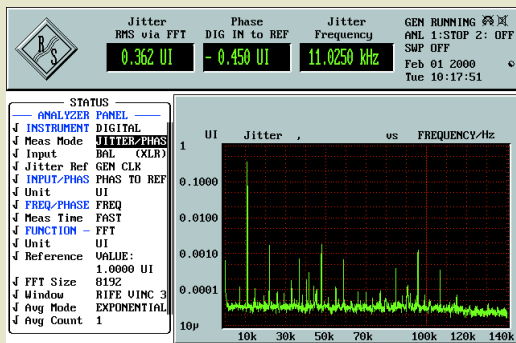

Fig. 9: Individual interference components can easily be found with the aid of the jitter spectrum
- Measurement of jitter amplitude and display of jitter signal in the frequency and time domain (Figs 9 and 10)